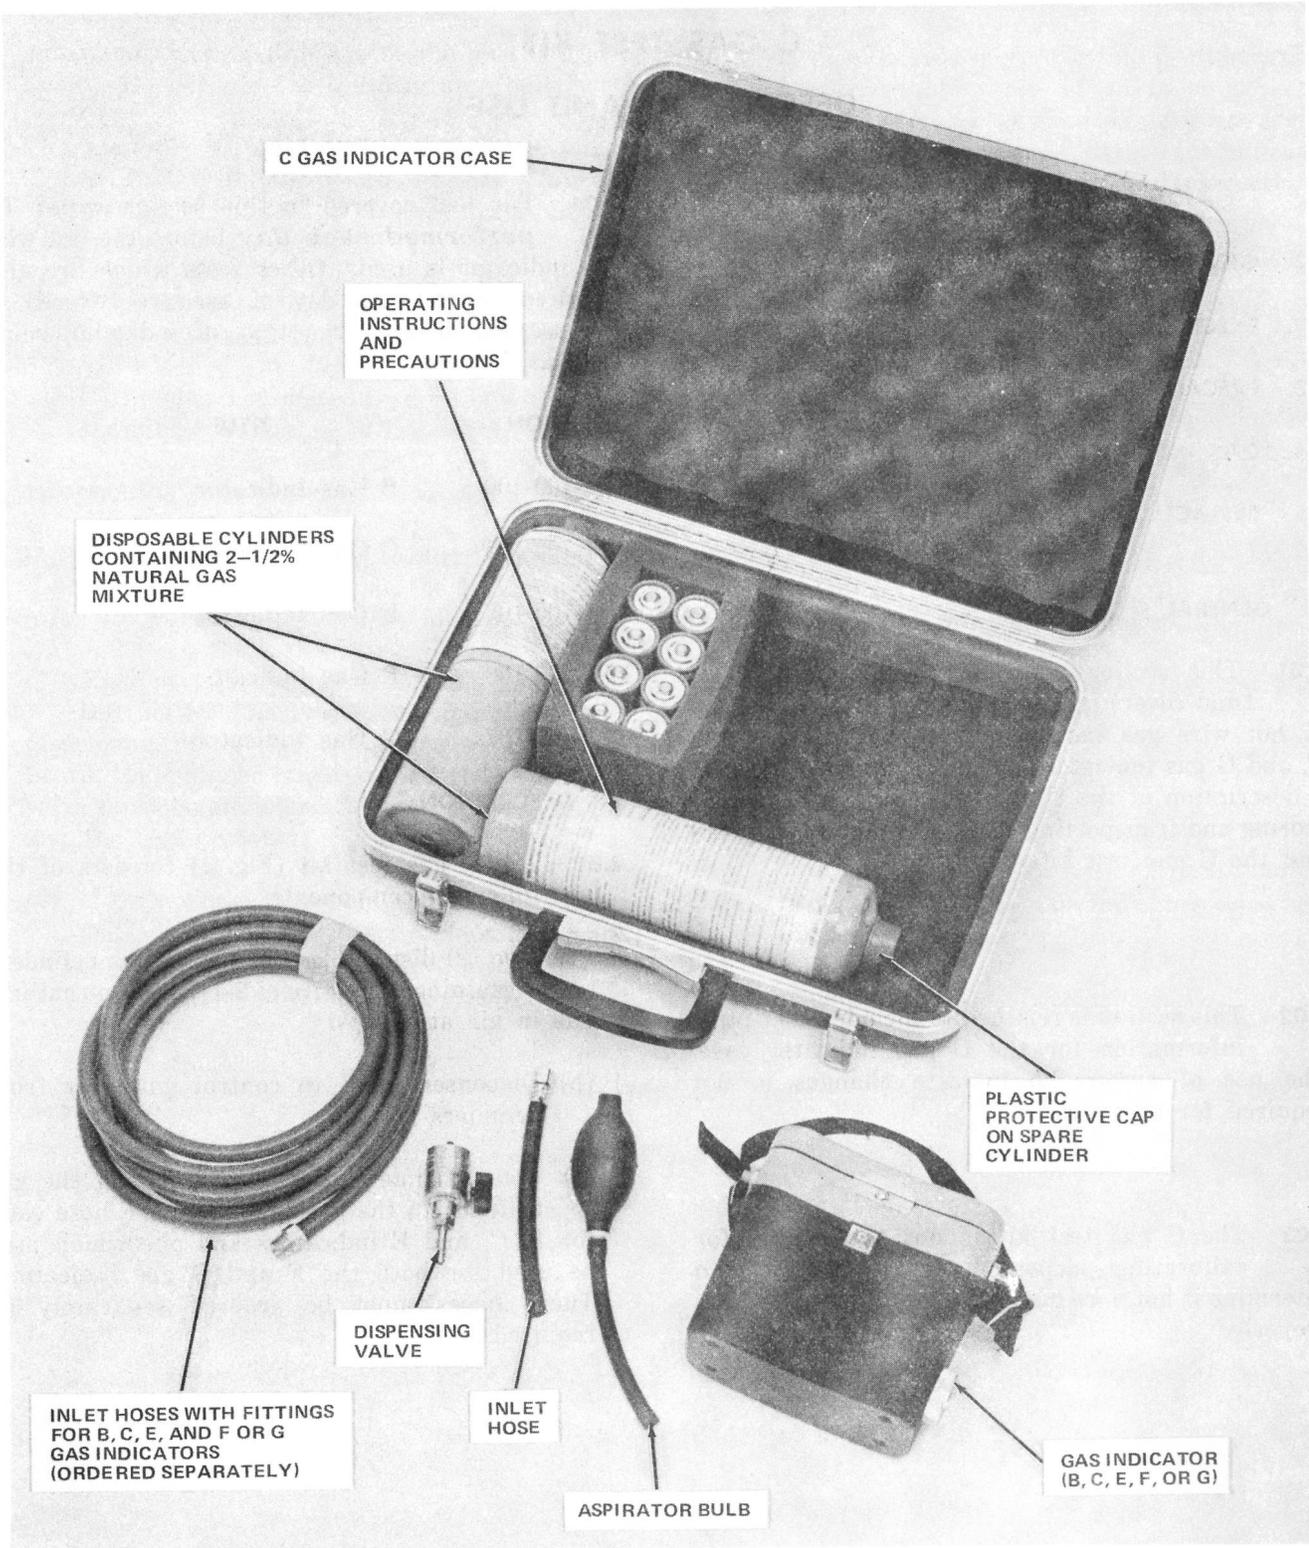

Fig. 1—C Gas Test Kit
2.01 The C gas test kit (Fig. 1) consists of the following components:
- (a) Two (2) disposable pressurized gas cylinders containing a mixture of 2-1/2 percent natural gas in air at 250 psi
- (c) Four (4) inlet hoses for connecting the gas cylinder to the gas indicator; one hose each for B, C, and E indicators and one which may be used for both the F and G gas indicators. These hoses must be ordered separately as required.